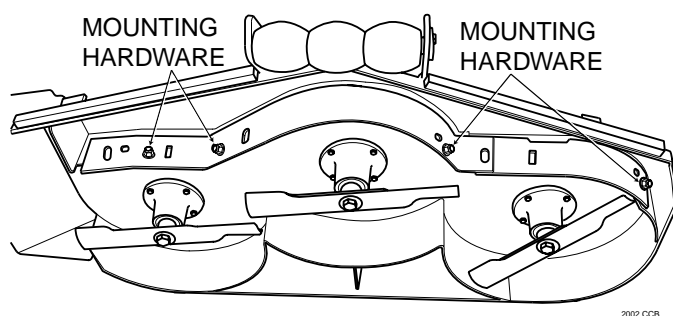

Figure 6-8. Custom Cut Baffle
2. Remove the hardware securing the Custom-Cut Baffle to the cutter deck. (See Figure 6.8).